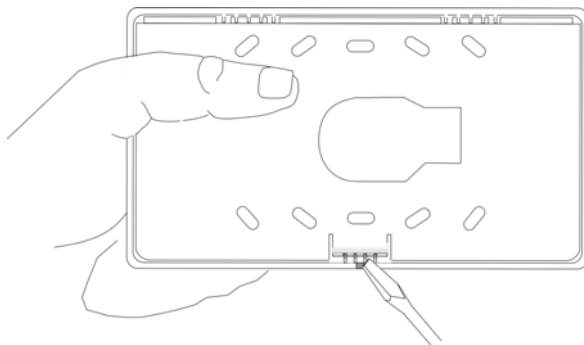

Figure 1: Rear Mounting Plate Removal
1. Insert a #4 flat blade screwdriver into the slots on the bottom edge of the annunciator to remove the mounting plate (see Figure 1). Gently turn the screwdriver until the mounting plate pulls away from the frame.